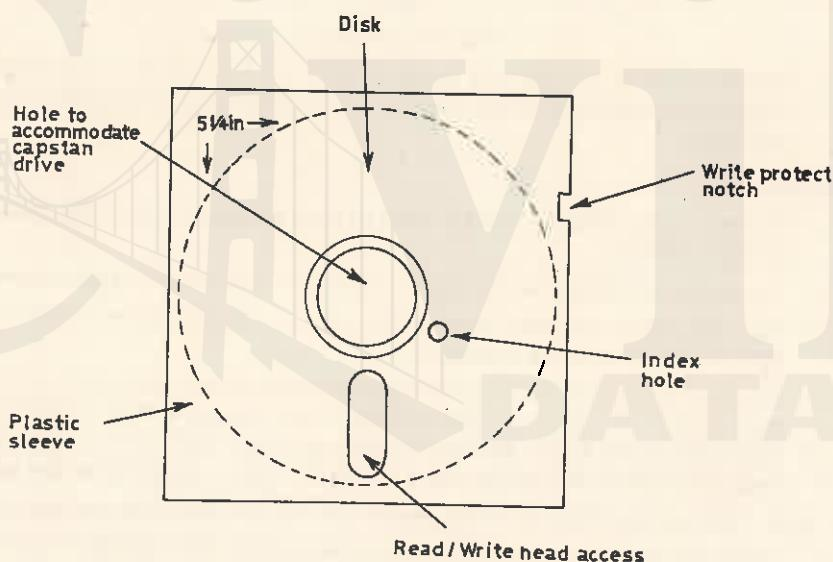

Fig. 36.13. A floppy disk.
- For protection, the floppy disk is normally contained within a plastic or cardboard sleeve, often referred to as a *cartridge* (Fig. 36.13). The cartridge is readily loaded into and unloaded from a *drive unit*.